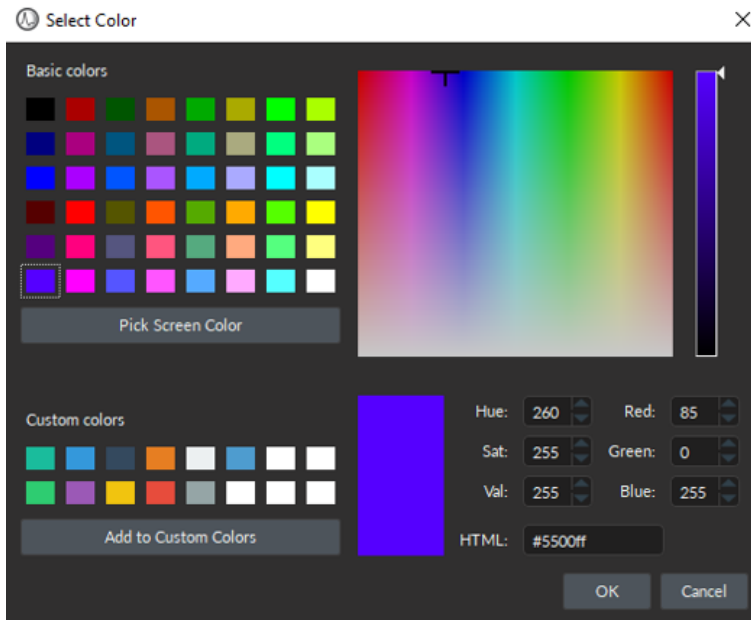

Figure 15.47: *Select Color Window*
4. The **Trace Colour buttons** (Fig. 15.46, a) in the **Options** column (Fig. 15.46, 4) opens the **Select Color** window (Fig. 15.47), where users can assign a unique/more intuitive color to each graph to easily identify and interpret the data.